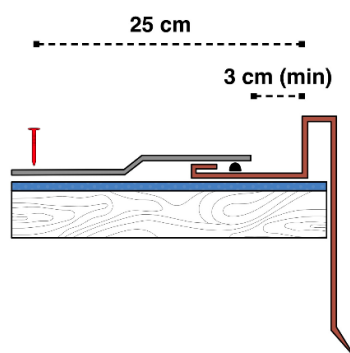

**Fig. 3** - Tracing of the pitch [cm]
- Draw horizontal lines parallel to **x**, each one distant 14 cm from the previous, until you reach the ridge - see Fig. 3.